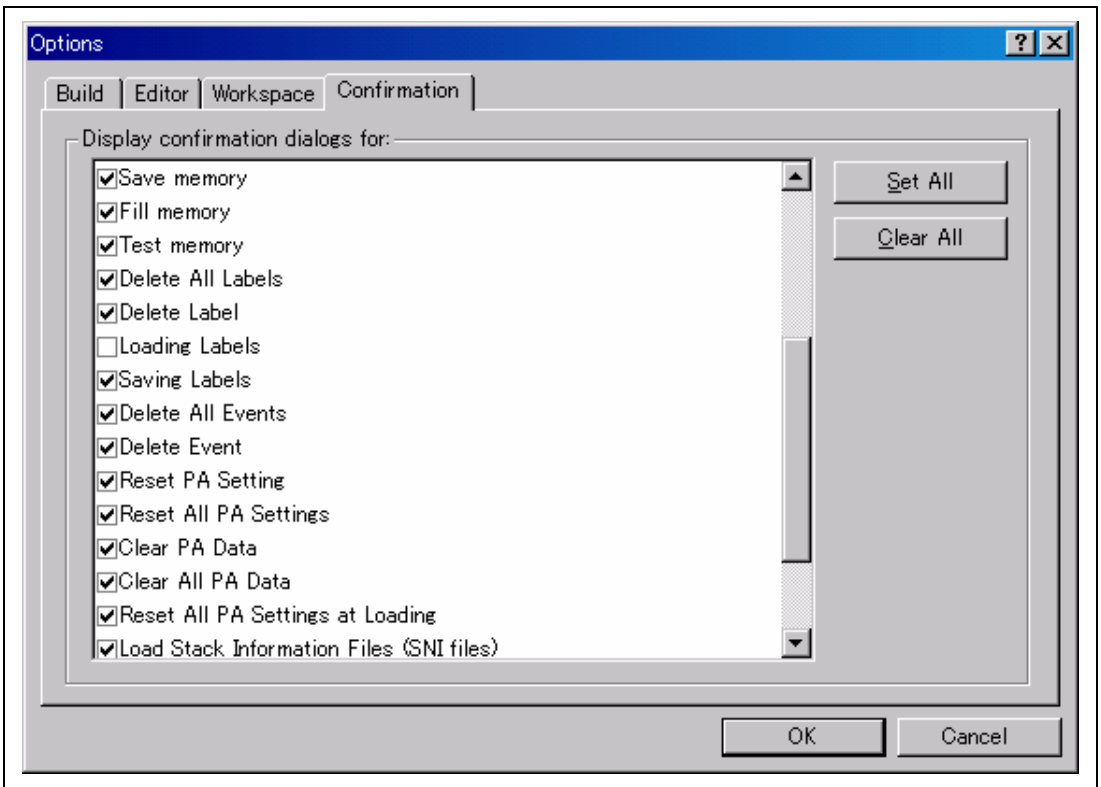

Figure 5.89 [Options] Dialog Box
- The [Load Stack Information Files (SNI files)] check box is checked in the [Confirmation] page of the [Options] dialog box (figure 5.89) that can be opened by choosing [Tools ->Options...] from the main menu.